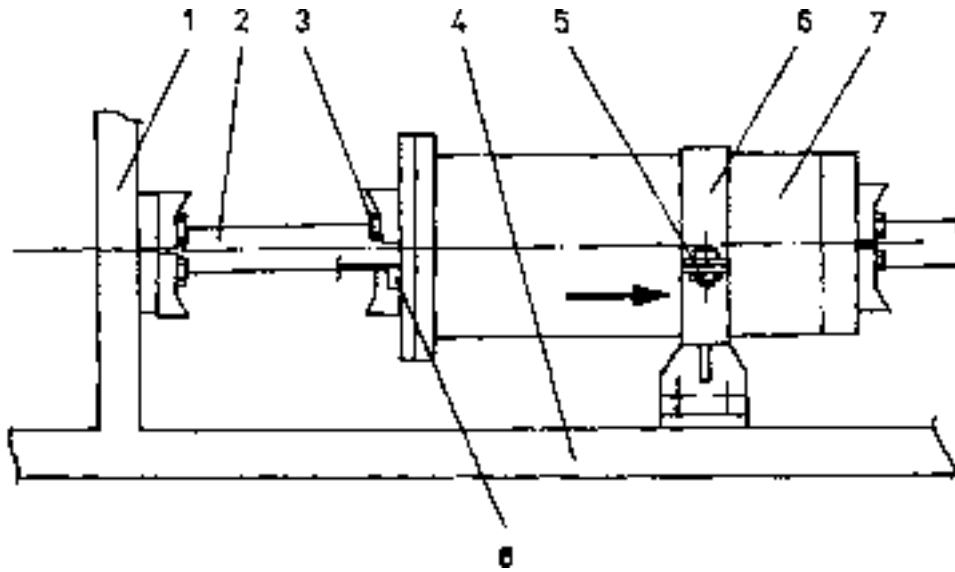

Fig. 5.47. Suction Strainer
**5.18.4. SERVICING THE SUCTION STRAINER (Fig. 5.47)**
7. Connect the suction strainer to the tubing (2, Fig. 5.47). Insert the O-ring (8) into the flange groove, install the two halves of the collar and secure them with bolts (3).